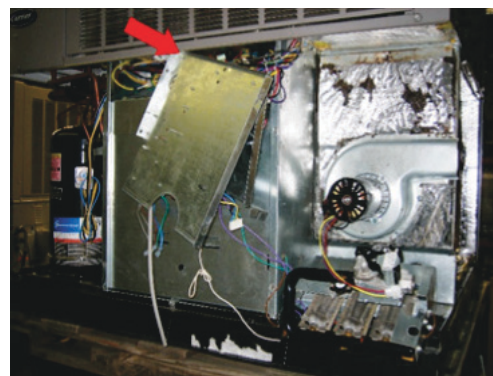

Fig. 12 – Securing Assembly to Screw Hole ^{A210079}
14. Gently pull Heat Shield / Control Panel bracket down and forward. Then rotate control panel bracket to the left. Secure assembly to screw hole on front panel with wire tie or similar fastener (Fig. 12). Use caution when moving control panel to avoid damage to controls or wire harness while moving assembly.